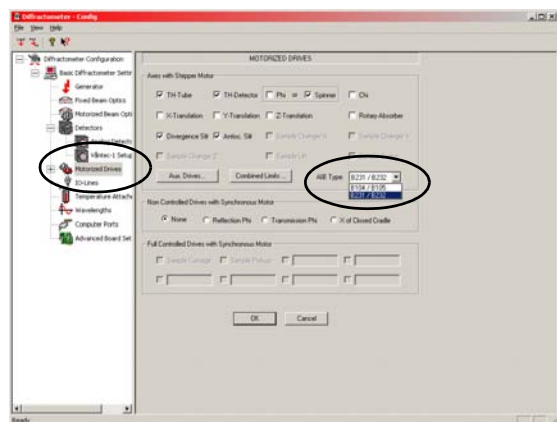

Figure 4.11 - Motorized Drives section
2. Under **Motorized Drives**, select **B231/232** from the “AIB Type” drop-down menu (Figure 4.11). This is standard for Theta-Theta or Theta-2Theta configurations.